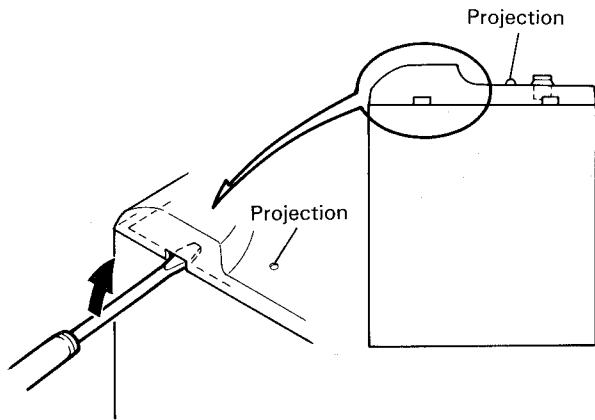

Fig. 7-26
4. Insert an ordinary (—) screwdriver into the left hole shown in Fig. 7-26 and set its edge just under the small projection. Keeping this position, slowly turn the screwdriver to push the front panel gently upward with care as described in the above note.
5. When there is a gap between the front panel and the speaker box, insert something like a UM-3 battery into it as shown in Fig. 7-26.
7. In order to prevent the front panel from damage, insert an ordinary screwdriver between the front panel and the acrylic plate as shown in Fig. 7-26, then lift the front panel upward using the front baffle plate as a fulcrum.
9. For removing the speaker unit, remove four screws (4) for the full range speaker (9).